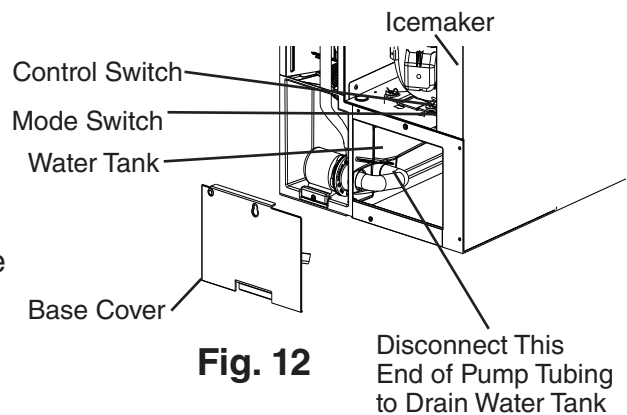

Fig. 12
- 3) Remove the base cover, then disconnect one end of the pump tubing to drain the water tank. See Fig. 12. After the water tank has drained, reconnect the pump tubing.